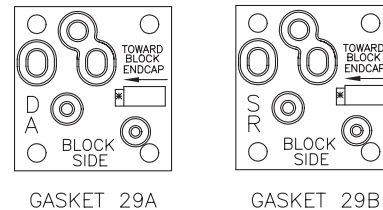

Figure 1
9. Control Block: If control block is removed, be sure appropriate gasket is properly inserted between block & switch base (see Figure 1 below and Access exploded view). Do not apply any grease to gasket, it must be installed dry.
CAUTIONS: If converting a double acting actuator to a spring return actuator or vice-versa, be sure the correct control block gasket is used (see Figure 1 on page 5 and Access exploded view).